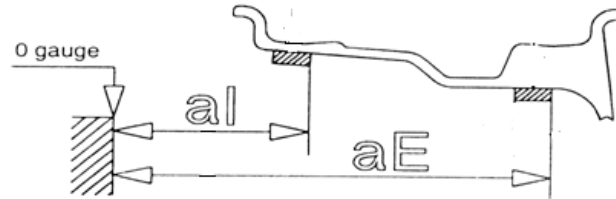

Figure10-3
to left part of Figure 10-3.
- 10.4.4 Slowly rotating wheel, when outside counterweight position indicator light all on, and show "OK", stick correspond counterweights on 12 o'clock position outside of rim refer to right part of Figure 10-3.
- 10.5.4 Slowly rotating wheel, when outside counterweight position indicator light all on, and show "OK", stick correspond counterweights on 12 o'clock position outside of rim refer to r Figure 10-3.